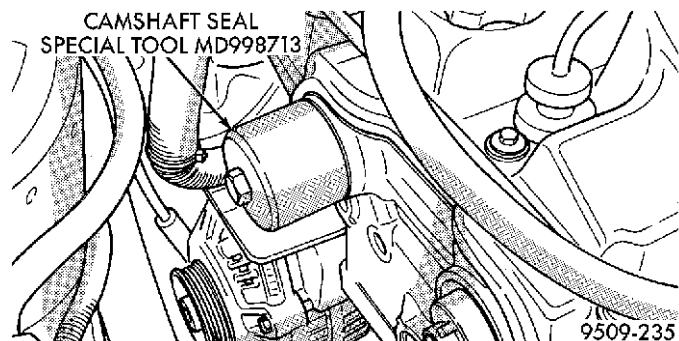

Fig. 55 Installing Camshaft Seals
- (1) Apply Mopar Silicone Rubber Adhesive Sealant or equivalent at the oil pump to engine block parting line (Fig. 55).
- (2) Install a new oil pan gasket to pan.
- (3) Install pan and tighten screws to 12 N·m (105 in. lbs.).
- (4) Install oil filter and adaptor.
- (5) Install transmission inspection cover.
- (6) install front engine mount and bracket.
- (7) Install transmission bending bracket.
(1) Install camshaft seal into cylinder head using Special Tool MD 998713 until flush with the head (Fig. 55).
(2) Install camshaft sprockets and tighten attaching bolts to 101 N·m (75 ft. lbs.).